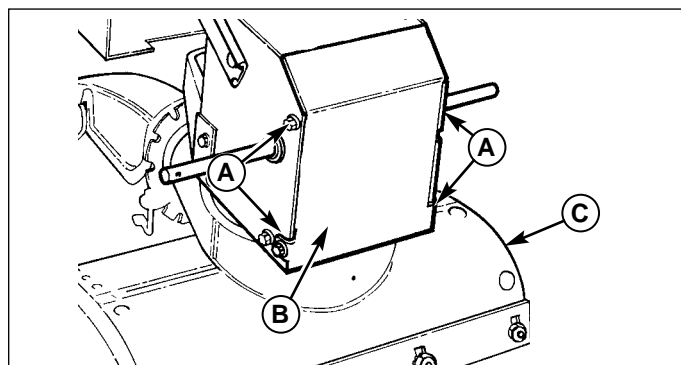

Figure 6. Bottom Cover
3. Stand snowthrower on the front of the auger housing (C, Figure 6).
4. Remove the capscrews (A) on each side of the bottom panel (B).
5. Remove the bottom panel (B).
13. Install the bottom panel (B, Figure 6) and tighten the capscrews (A).